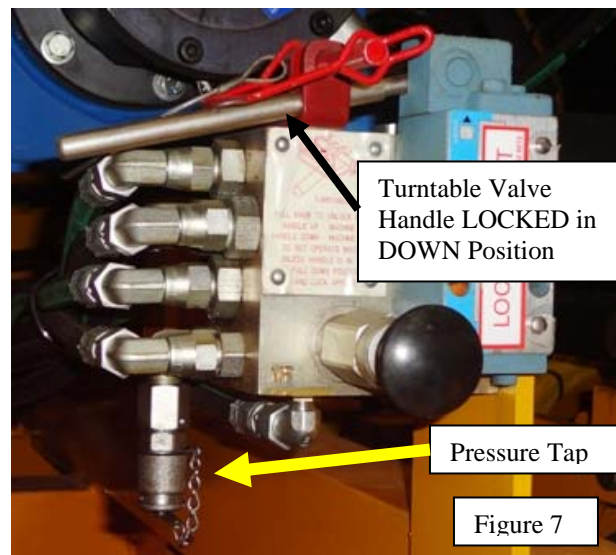

Figure 7
4. The Turntable Valve (Figure 7) has a locking pin & bracket that locks the turntable valve in the DOWN position (MACHINE IS DOWN ON THE TRACK). Hydraulic oil is directed to the retract side of the turntable cylinder in this position.
3. Attach the other end of the hose to the turntable valve pressure tap (Figure 7).